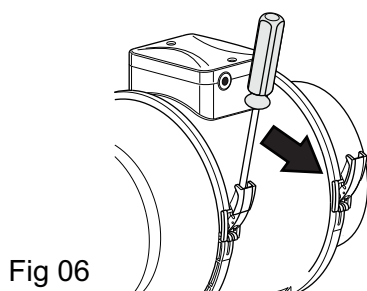

Fig 06
- The fan mounting sequence is shown in Fig. 06 - 12.